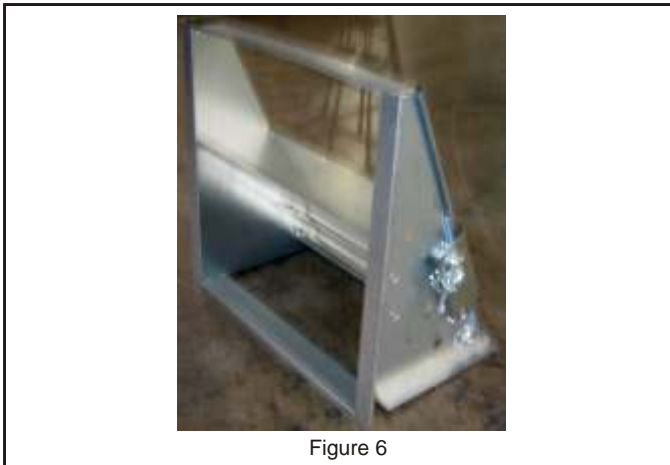
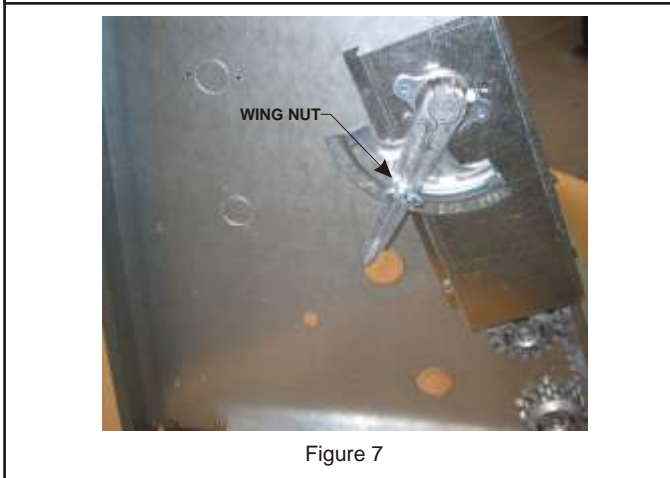

Figure 6
Figure 7
5. Slide in balancing damper over return duct opening. Put balancing damper in place with the damper blade at the bottom. **See Figure 6.** Loosen wing nut on adjustable quadrant, rotate arm to set blades to 50% open and retighten wing nut. **See Figure 7.**